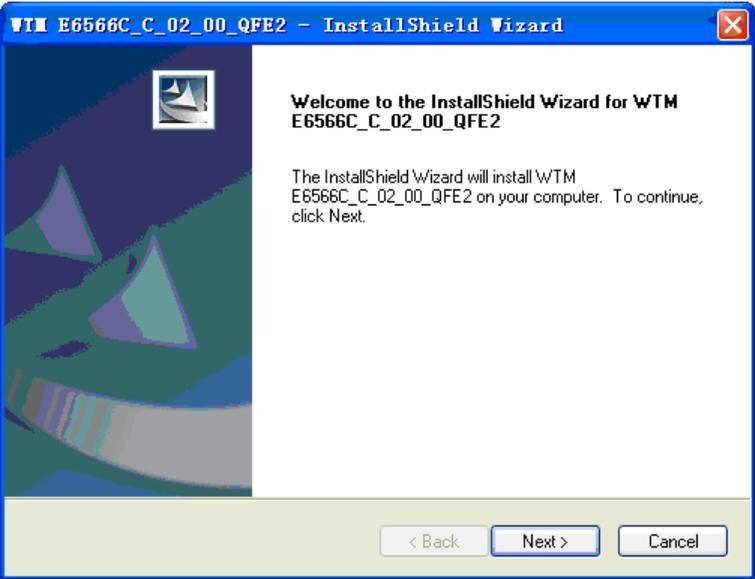

Figure 2. Start the InstallShield.
3. Double click the QFE installation program (E6566C C.02.00 QFE2.exe or E6568C C.02.00 QFE2.exe) to initiate the installation process. Follow the InstallShield Wizard to complete the installation. See Figures 2 to 4.